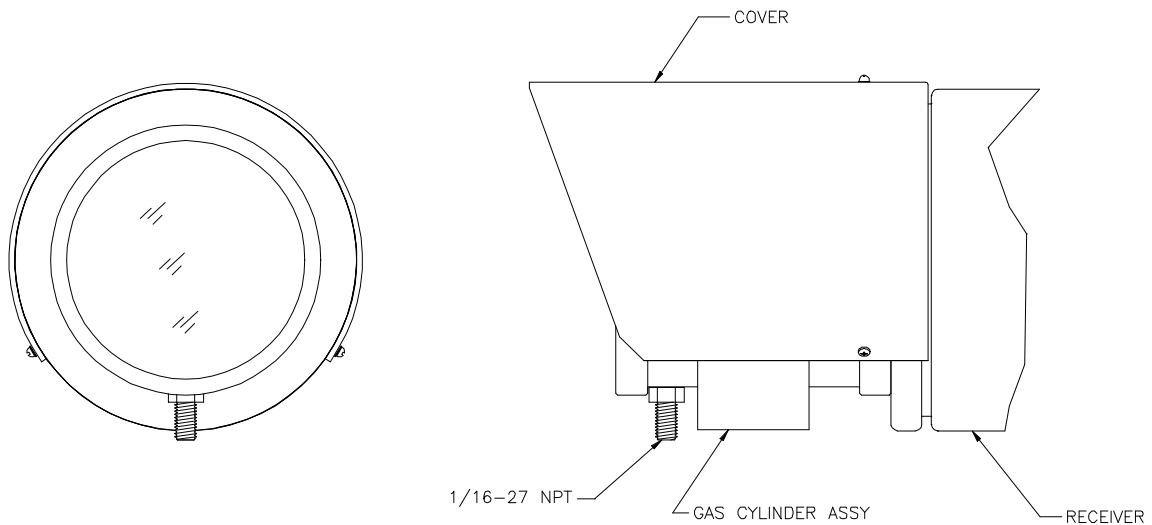

Figure 1
2. Install the gas cell into the shroud in front of the receiver unit with the hose fitting pointing down and close to the unit as shown on outline and mounting drawing 31088 (Figure 1).
4. All values given are taken at 20 to 25°C without Hydrocarbon (HC) background in the path. At different temperatures the values will vary.